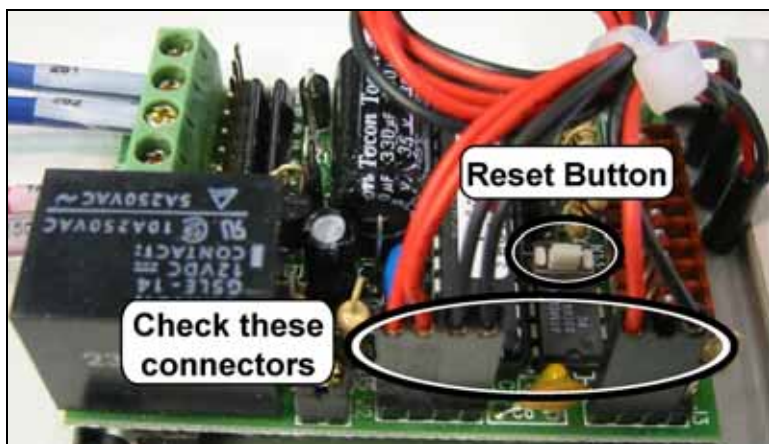

Figure 27, Back of Keypad
- Step 2) Figure 27 shows the back of the keypad, carefully press on this circuit board to ensure that it's seated fully, also check that the plugs along the edge of the board are correct.
- Step 4) Figure 27 shows the back of the keypad, carefully press on this circuit board to ensure that it's seated fully, also check that the plugs along the edge of the board are correct.
Step 7) Press and release the small button (Figure 27) on the back of the keypad circuit board with a non-metallic object (like a writing pen.) The yellow light should now flash for 20-30 seconds, at the end of this time the system will become active. This tests that the keypad is operating, but may not be accepting your security code.